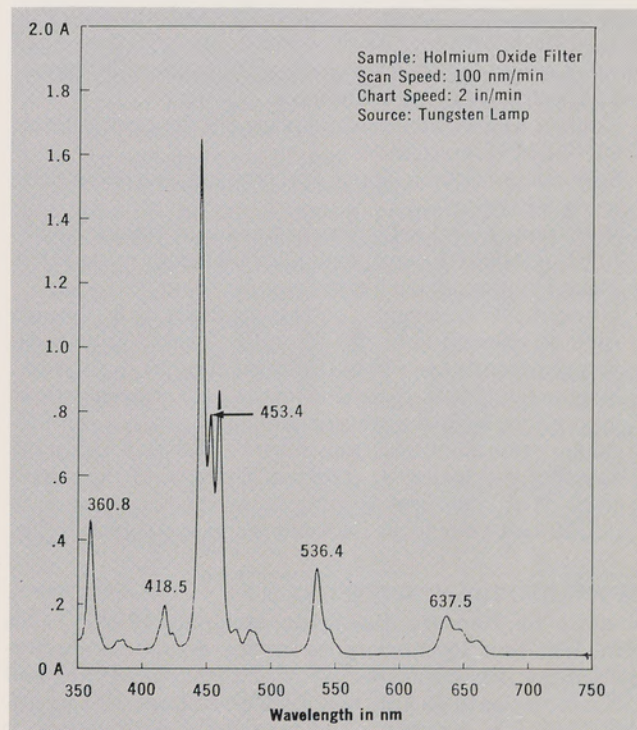

Figure 10. Holmium Oxide Filter Spectrum
Wavelength calibration can be checked by using a holmium oxide filter as a wavelength standard. Holmium oxide glass has a number of sharp absorption bands which occur at precisely known wavelengths in the visible and ultraviolet regions of the spectrum. Use the wavelengths in Figure 9 and the spectrum in Figure 10 to check wavelength calibration.
5. Using the Wavelength Control, manually scan through each wavelength until the absorption peak is found. Always approach each point from the long to short wavelength; i.e., 360.7 from 365 nm. Check wavelength in accordance with the wavelengths in Figure 9. The holmium oxide filter spectrum may be recorded using the recorder parameters as stated in Figure 10. If the instrument does not meet specifications, do not attempt to adjust; call your local Beckman Service Representative.